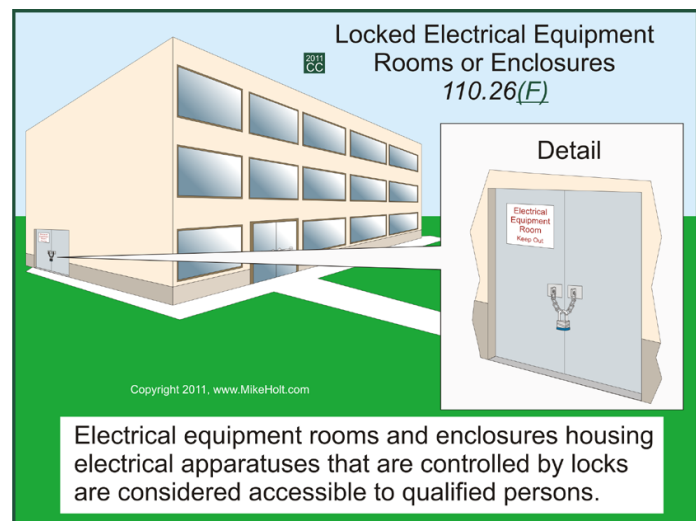

Figure 110-36
(F) Locked Electrical Equipment Rooms or Enclosures. Electrical equipment rooms and enclosures housing electrical equipment can be controlled by locks because they are still considered to be accessible to qualified persons who require access. **Figure 110-36**